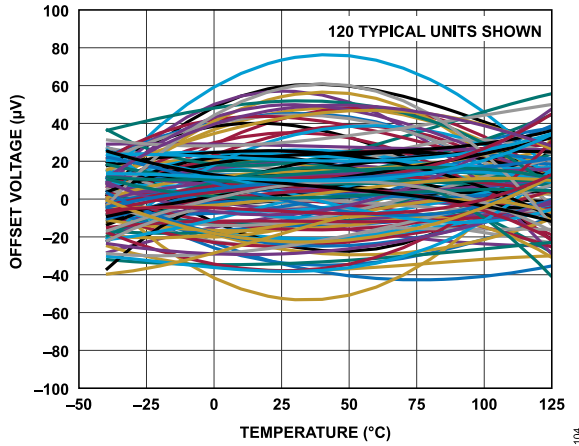
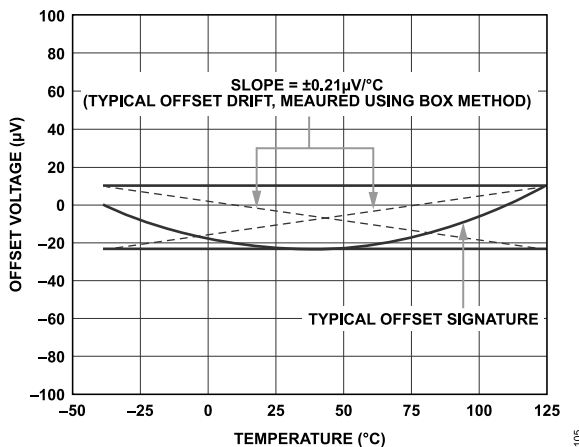
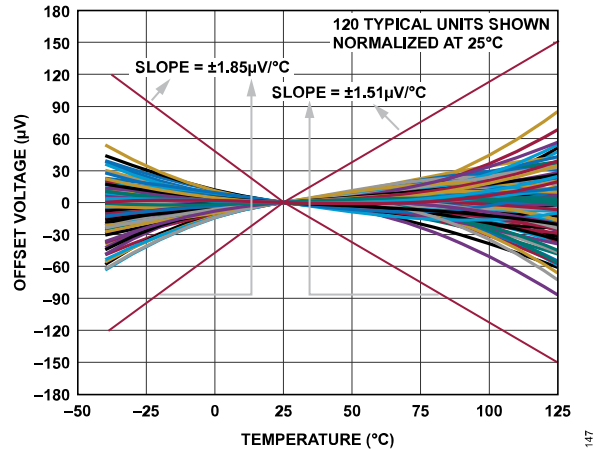

Figure 52. Offset Voltage vs. Temperature
Figure 53. Box Method
Figure 54. Bowtie Method
The AD8410A features an in-package trim core, which leads to a typical offset drift of $\pm 0.21 \mu\text{V}/^\circ\text{C}$ (using the Box Method) throughout the operating temperature range and the common-mode voltage range. This architecture does not compromise bandwidth, but the offset voltage drift signatures for the AD8410A vary part to part as shown in the Figure 52. After observing the minimum and maximum value for V_{OS} over the full temperature range from -40°C to 125°C , the V_{OS} in $\mu\text{V}/^\circ\text{C}$ is calculated for each part using the box method.
A visual representation of this box method calculation and the mean value for the V_{OS} drift using the box method is shown in Figure 53. Based on the mean (Typ) value of $\pm 0.21 \mu\text{V}/^\circ\text{C}$ and the standard deviation of the box method drift of the 120 parts from Figure 52, a user can calculate a value (see equation (1)) for a guarantee V_{OS} drift by characterization, $\pm 0.71 \mu\text{V}/^\circ\text{C}$.
Typically, in the applications where the AD8410A is used, a calibration is done at 25°C . If a single point calibration at 25°C is done on the 120 parts as shown in Figure 52, this creates a plot shown in Figure 54. For each part, the slope of the line from 25°C to -40°C is calculated and the slope from 25°C to 125°C for each part is calculated. The mean and standard deviation for the slope of all the parts from 25°C to -40°C is then calculated. The V_{OS} max drift of $\pm 1.85 \mu\text{V}/^\circ\text{C}$ using the bowtie method is then calculated using equation (1). The mean and standard deviation for the slope of all the parts from 25°C to 125°C is then calculated. The V_{OS} max drift of $1.51 \mu\text{V}/^\circ\text{C}$ using the bowtie method is then calculated using equation (1). The red lines in Figure 54 represent the worst-case V_{OS} drift slopes using the bowtie method that a user can guarantee through characterization. Calibrating at 25°C allows the max V_{OS} over the full temp range to be reduced to $\sim \pm 151 \mu\text{V}$, as opposed to the $\pm 200 \mu\text{V}$ listed in the spec table as the max V_{OS} over temperature (with no calibration).